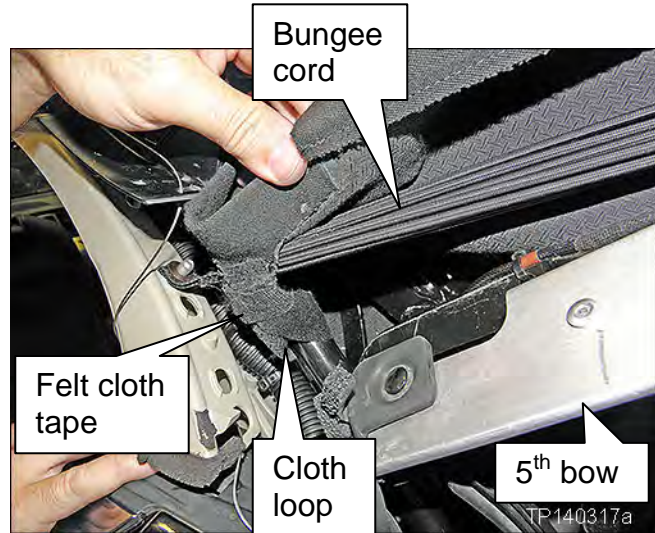

Figure 29
18. Take loose the cloth loop from around the lower link, shown in Figure 29, as follows: